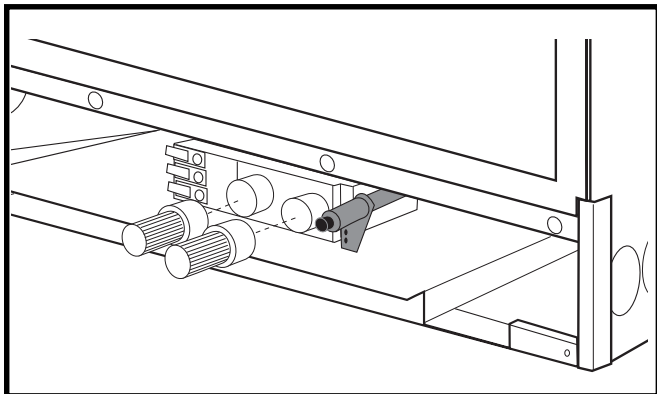

Fig. 35. Install the knob extensions. (only for RN/RP valves)
- c) Install the Control Knobs Extensions onto the appropriate Control Valve Knobs (Fig. 35)
On units fitted with a Honeywell brand control valve the location of the control knobs and the ignitor button may vary slightly from those shown in Fig. 35. The Honeywell extension pieces are visually different in design and are not interchangeable with the RN/RP knobs shown in Fig. 35.